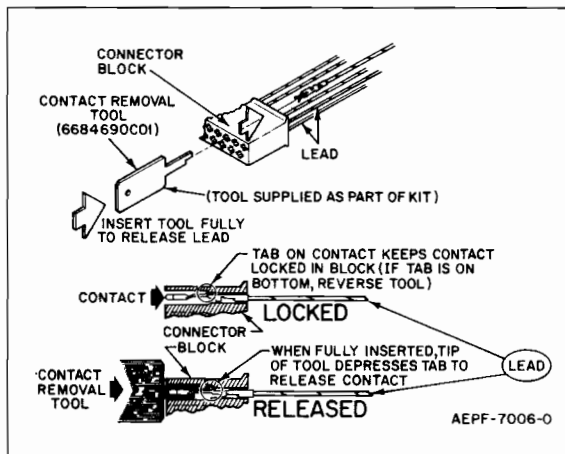

Figure 5.
- Refer to Figure 5 for information on removing and inserting the contact pins in the multiconductor plug, if necessary.